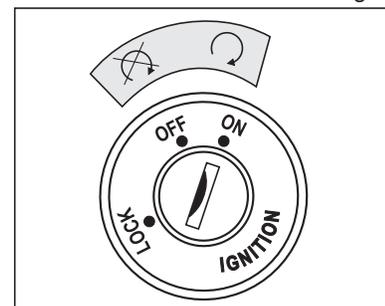

Fig. 7
**Un-locking the Handlebar:** Insert the key in ignition switch and turn it clockwise to unlock the handlebar. To switch on the ignition turn the key further clockwise to "ON" position (Fig. 7).